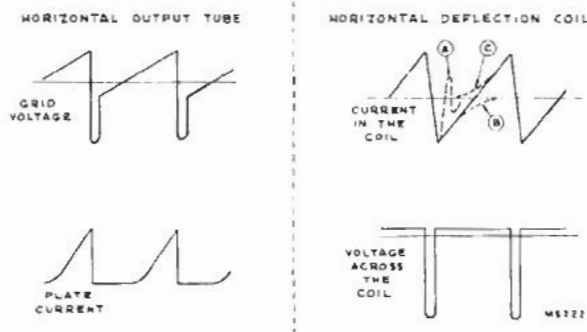

Figure 9—Horizontal Sweep Waveforms
tube plate so that it is non-conductive, there is essentially no load on the circuit and it oscillates vigorously for one half cycle. If the reaction scanning tube were not present, the circuit would continue to oscillate as shown in Figure 9 (A). This condition, however, is not permitted. One half cycle of oscillation is permitted because at the end of such a time the current in the deflection coil has reached a maximum in the opposite direction to which it was flowing at the end of the trace period. This reversal of the direction of flow of current was the requirement for retrace and it was accomplished in the allotted 7 microseconds.
As mentioned previously, if the coil were not damped, it would continue to oscillate at its natural frequency as shown in Figure 9 (A). To prevent such an oscillation the reaction scanning tube is brought into action. This tube is in a modified damper circuit which is effectively connected across the deflecting coil.
If no additional energy were fed into the coil, the field would fall to zero and the Kinescope beam would come to rest in the center of the tube. In such an *r-l* circuit, as the current approaches its final value, it does not do so linearly but asymptotically as indicated in Figure 9 (B). It is therefore necessary to have the output tube begin to supply power to the deflection coil before the energy in the coil is completely dissipated. Figure 9 (C) shows the shape of the current supplied by the output tube. Although the currents supplied by the output tube and by the decaying field are curved at the cross over point, together they produce a coil current that is linear.